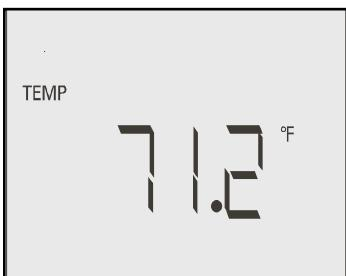

Figure 1
- 5.1.1 The VA500A will switch on in the TEMP mode. If already in another mode, press the MODE button until TEMP is displayed on LCD. (Fig. 1)